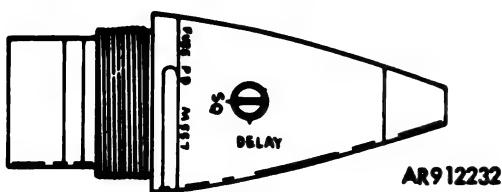

Figure 211.16. Point detonating fuze M657.
b. *Fuze, Point Detonating, M557 (fig. 211.16).* The M557 fuze has a selective superquick setscrew. It is packed set for superquick and has a booster attached. Duds may occur when set for delay functioning and fired with M3A1 green-bag charge.